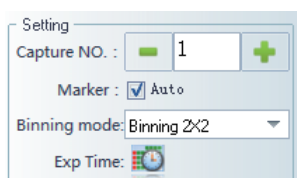

Fig 5-8
5.3.3 Manual mode:(Figure 5-8)